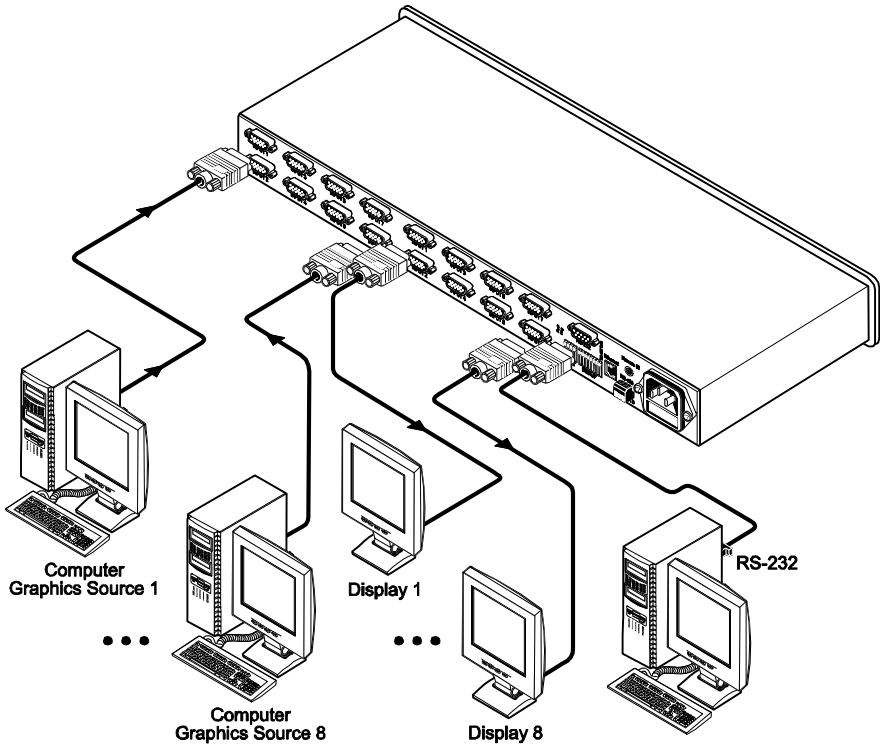

Figure 3: Connecting the VP-8x8 8x8 VGA / UXGA Matrix Switcher
1. Connect up to 8 VGA/UXGA computer graphics sources to the input connectors (see the illustration in Figure 3).
5. Connect the power cord⁴ (not shown in Figure 3).